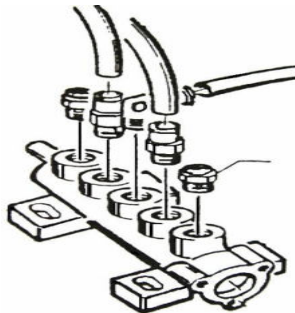

Fig.18
- g. For opening/closing clamps (see fig 18.) and proceed as follows:
- h. For cleaning or replacing the silencer of bead breaker, see fig.18 and proceed as shown on previous point 1 and 3.